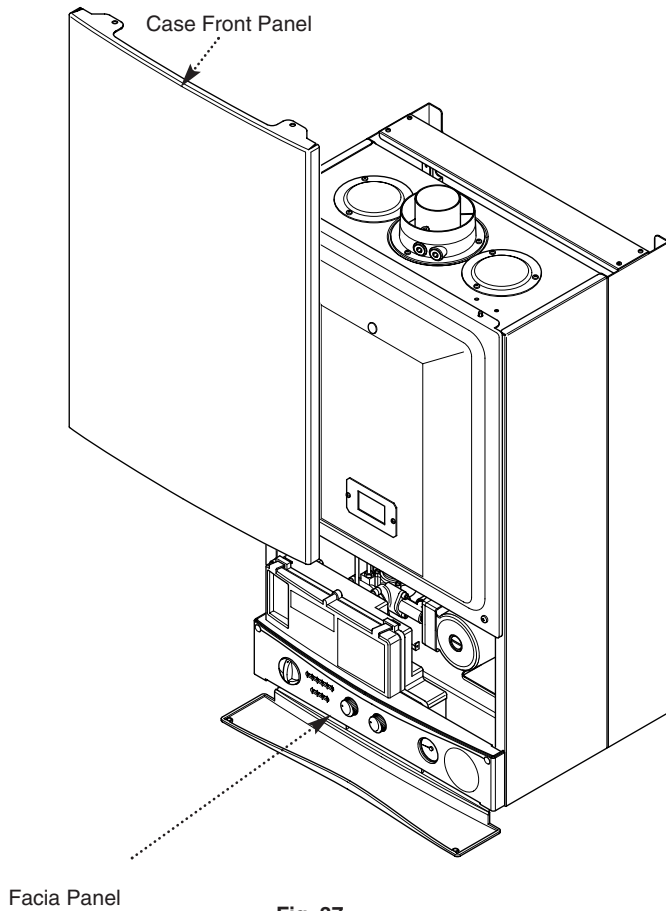

Fig. 37
1. Hinge the facia panel upwards and refit the case front panel. Secure them with the screws previously removed (Fig. 37).